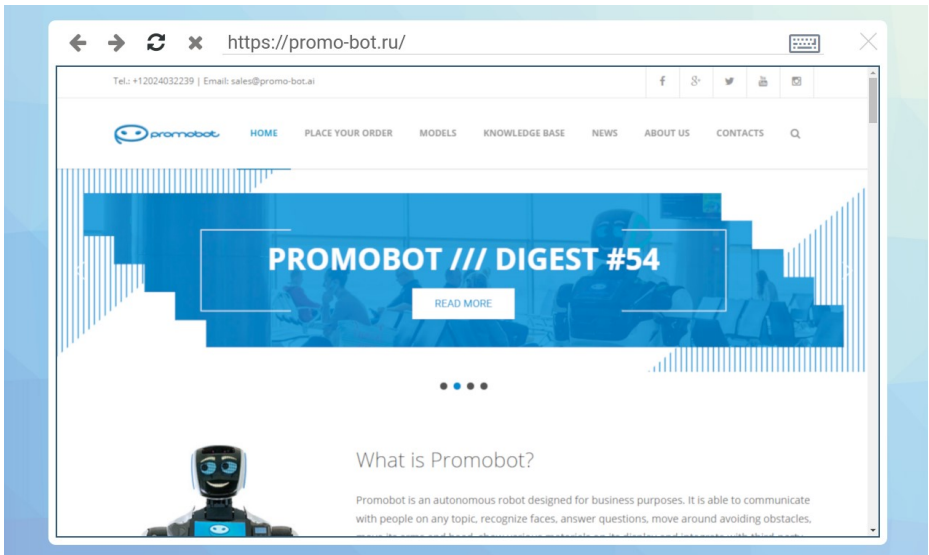

Fig.3.15.
**"Browser"** – opens a browser window (Fig.3.15).